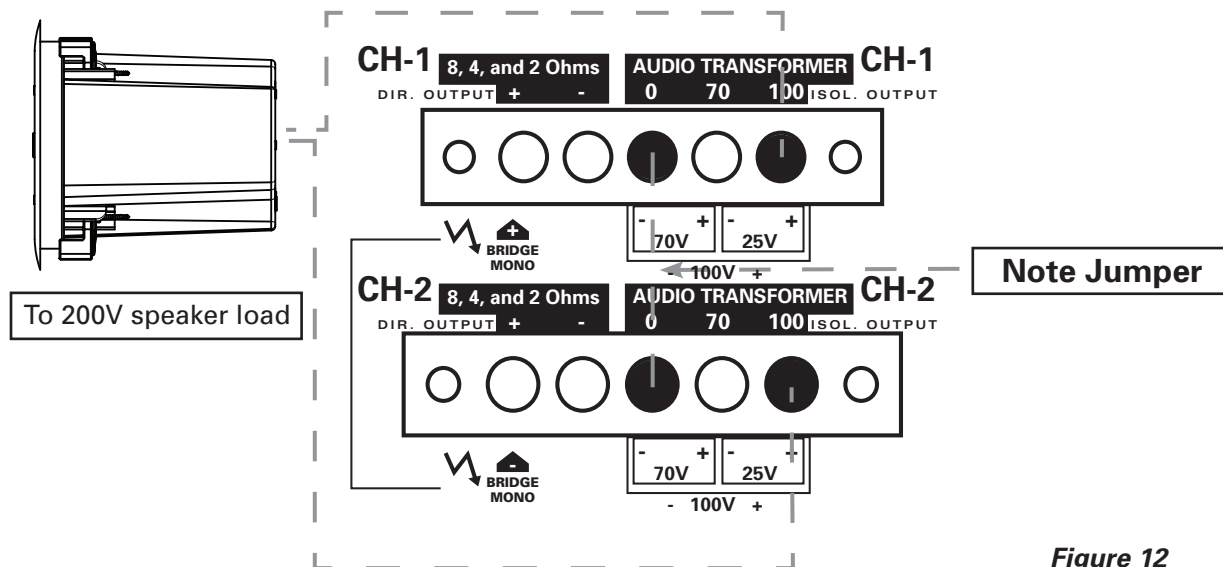

Figure 12
- **200V Operation** - Connect the positive lead of the speaker load to the channel 1 100V positive "+" terminal, the negative speaker lead connects to the channel 2 100V positive "+" terminal. Connect a suitable jumper wire between the two terminals labeled "0". Consult your local codes to determine if Class I wiring is required (Figure 12).